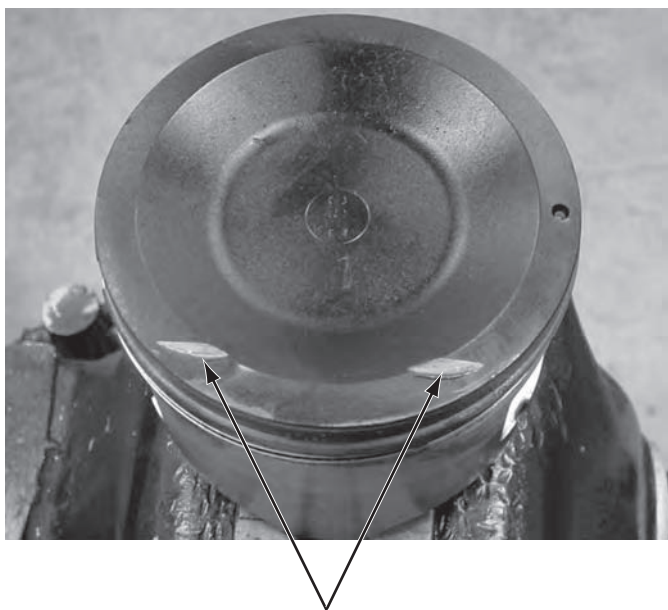

FIGURE 10.20 During valve float, open exhaust valves sometimes contact pistons, leaving “witness marks.” (Courtesy of Tim Gilles)
- During valve float, open exhaust valves sometimes contact pistons, leaving "witness marks" (**Figure 10.20**).